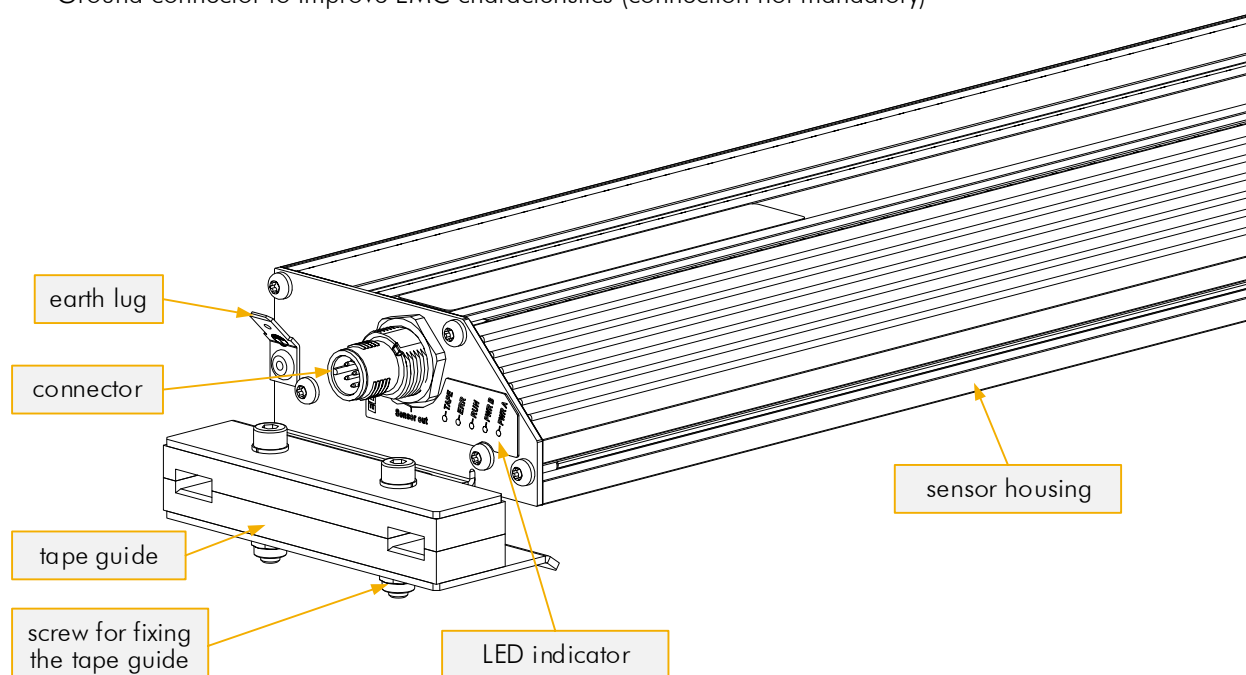

Fig. 20: Components of the sensor (semi-guided variant)
9. Now pass the tape through the sensor. Loosen the screws (Fig. 20 on page 39) to fix the polymer guides and remove them. Then remount them with the tape in between.